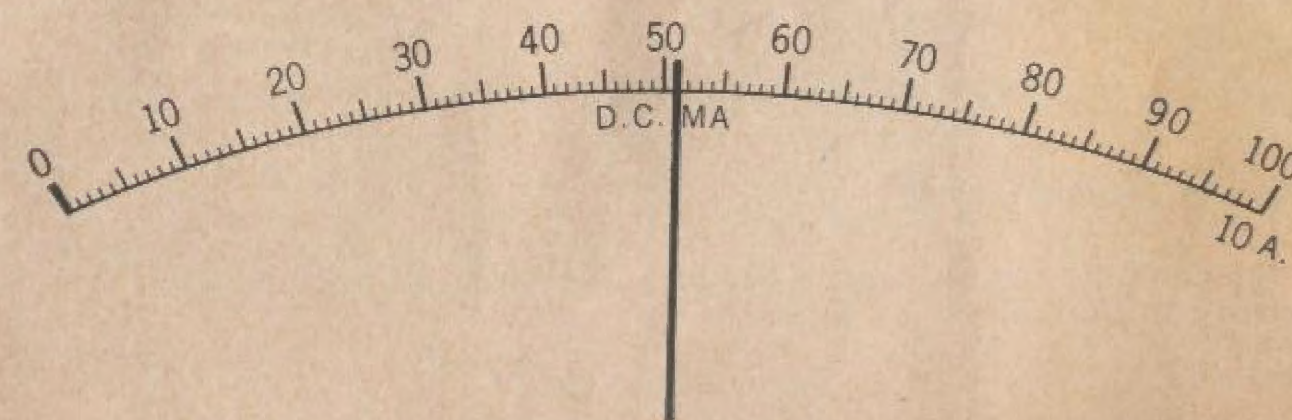

Figure 25—10A. D.C. Scale
5. The highest current range is 0-10 amp. The test leads must be connected between the (—) and the 10A jacks. The Polarity Reversal switch must be in the (+) position in order for the meter to read. The Range Selector switch must be in the 100 MA position. 10 amperes represents full scale deflection and 9 amperes would occur at the 90 point on the scale, and 6 amperes would appear at 60 on the scale, etc. If the pointer came to rest as shown in Fig. 25, the current flowing in the circuit would be 5.1 amperes.